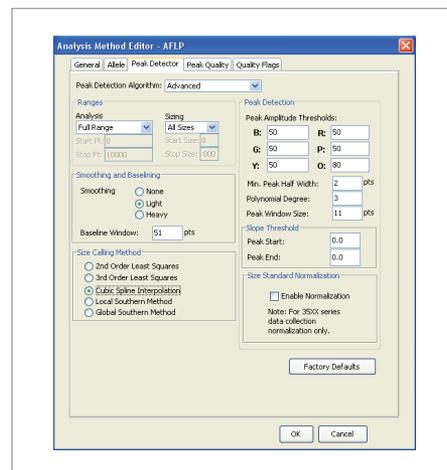

Figure 8. Configuring the Settings in the Peak Detector Tab.
15. Select the Peak Detector tab and configure the settings as shown in Figure 8.